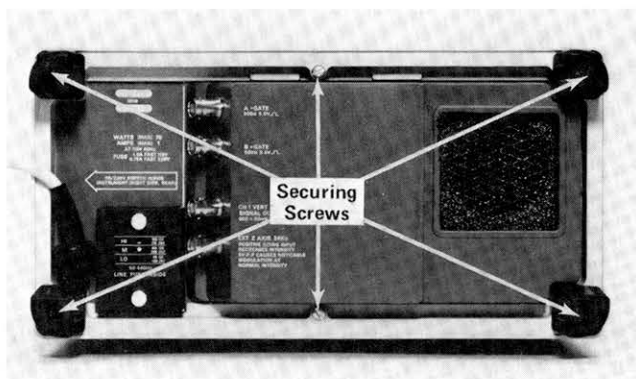

Fig. 4-1. Removing wrap-around cabinet.
2. Remove the six screws indicated in Fig. 4-1 and remove the instrument feet and rear ring assembly from the instrument.